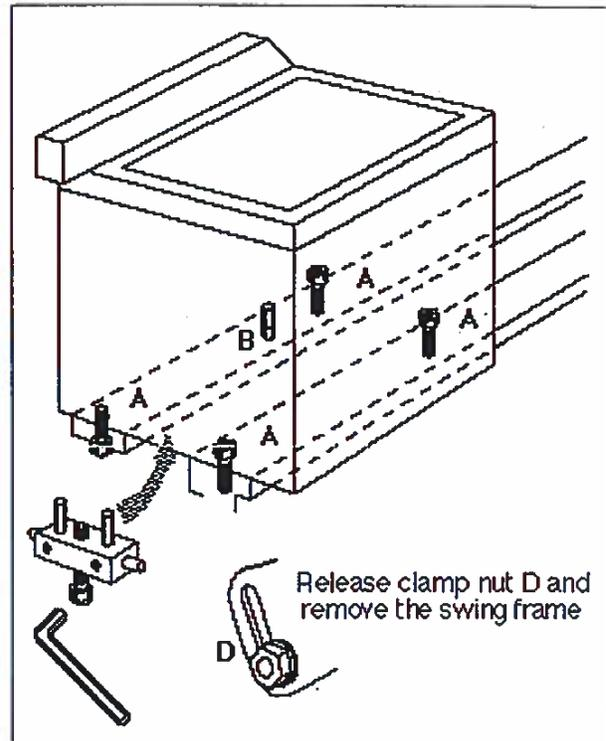

Fig. 22
To correct a greater difference in readings, first open the end guard and loosen the four headstock screws (A) shown in Fig. 22. Adjust the set over pad C to pivot the headstock about the dowel B. Retighten all securing screws after each adjustment. Repeat the test cut and alignment check until the micrometer readings are within tolerance.